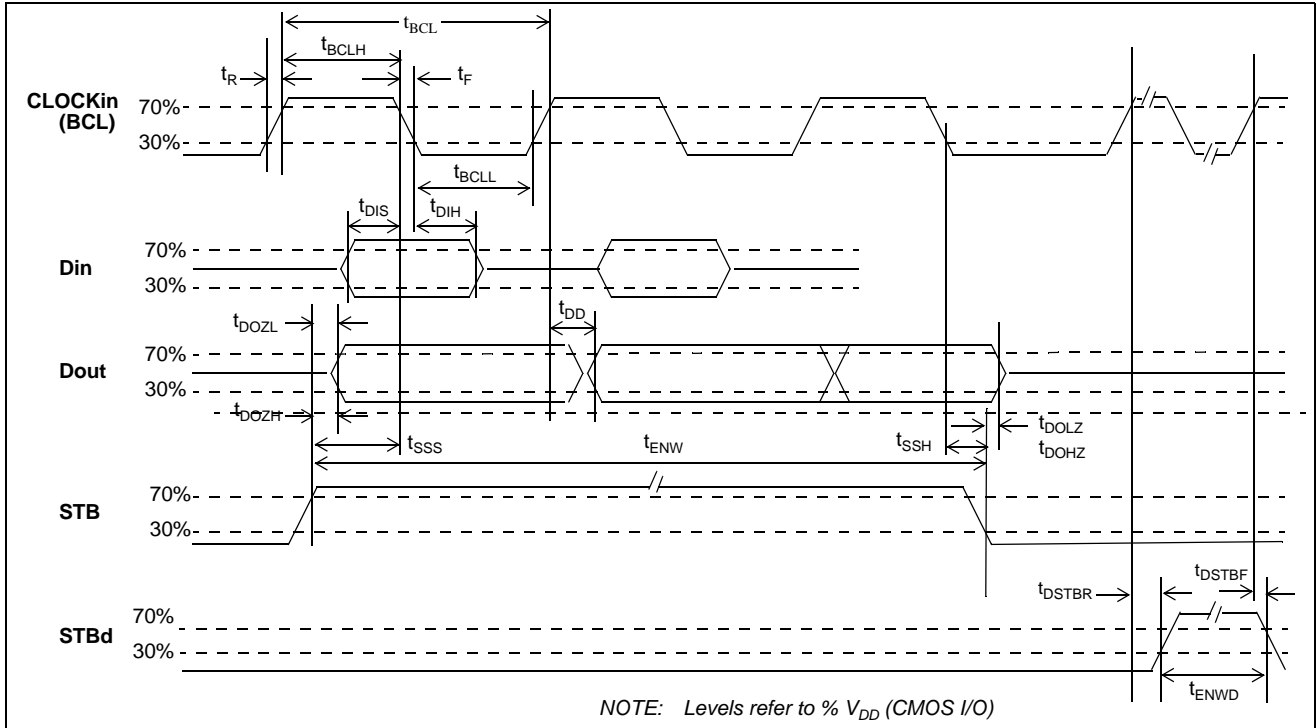

Figure 12 - SSI Synchronous Timing Diagram
**AC Electrical Characteristics† - SSI BUS Synchronous Timing (See Figure 12)**